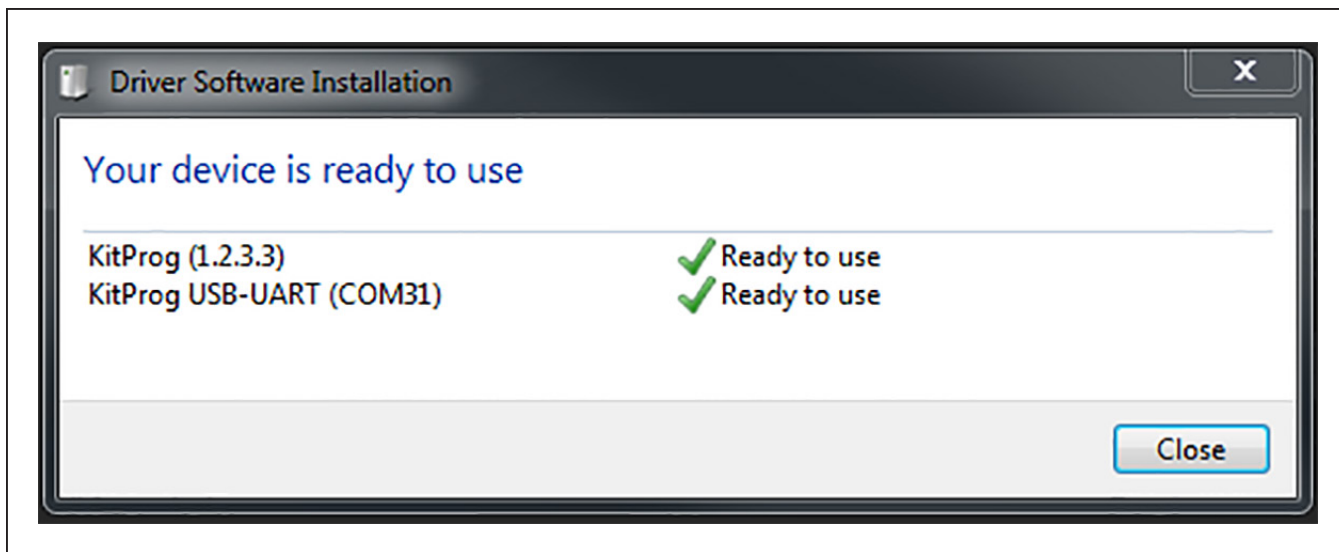

Figure 8. BLE Dongle Driver Installation
- 4) The BLE Dongle driver installation will also be completed after the GUI installation, as shown in Figure 8.